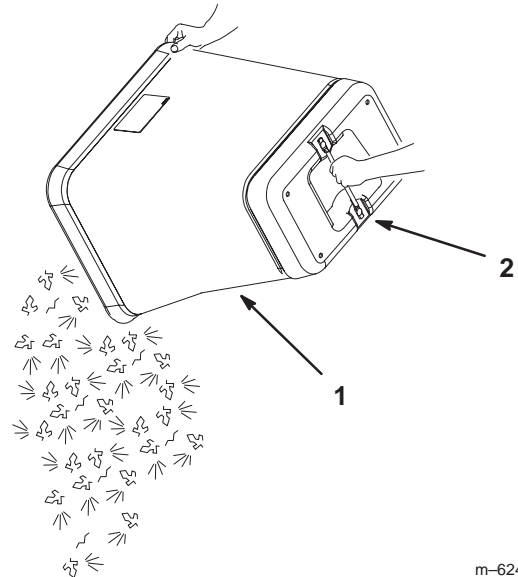

Figure 25
5. Grab the handle on the bottom of the bag and tip it over to empty the bag (Fig. 25).